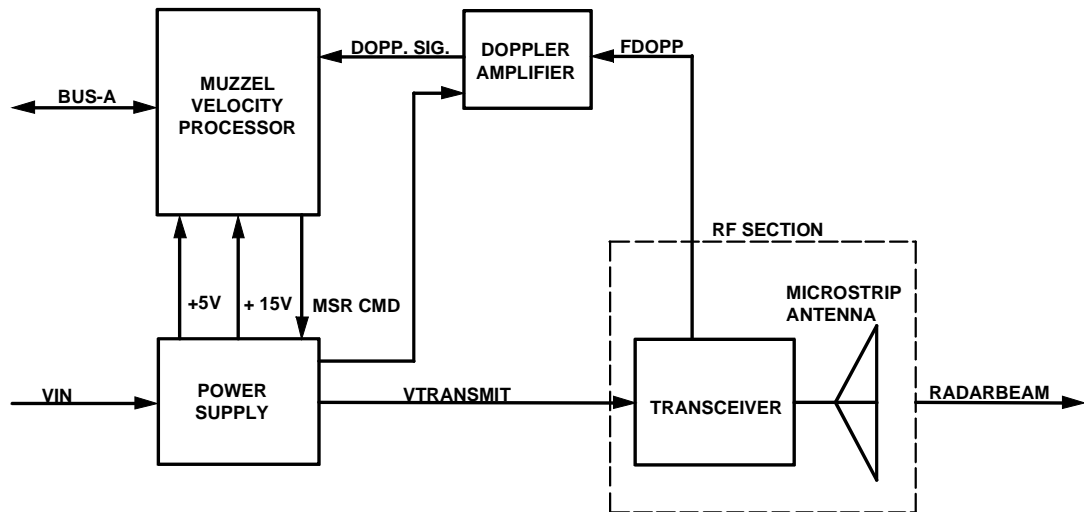

Figure 1-3. Transceiver Assembly Simplified Block Diagram
**1.19.1 General Description.** For the following description, refer to Figure 1-3. The transceiver is divided into four main subassemblies: